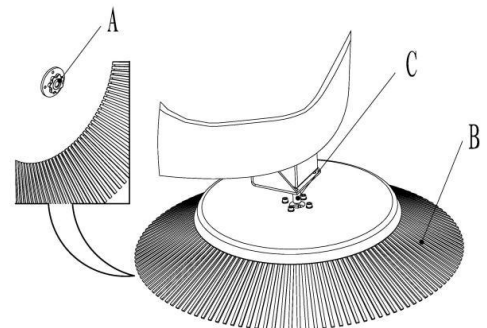

Figure 13
3. Put your hand into the side broom, twist the blossom nut (A, FIG. 13), press it down along the motor spindle (C), Remove brooms (B).
4. Align the new side brush with the motor spindle (C, FIG. 13) and tighten the fancy nut (A, FIG. 13).